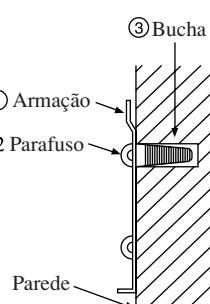

Fig. 3-2
- Insira as buchas no. ③. (Fig. 3-2)